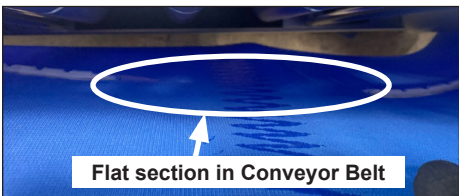

Figure 16. Flat section of belts
2. Stand the Conveyor on its side. Manually rotate the belt on the Conveyor until the flat portion of the belt reaches one end of the Conveyor roller (Figure 16).